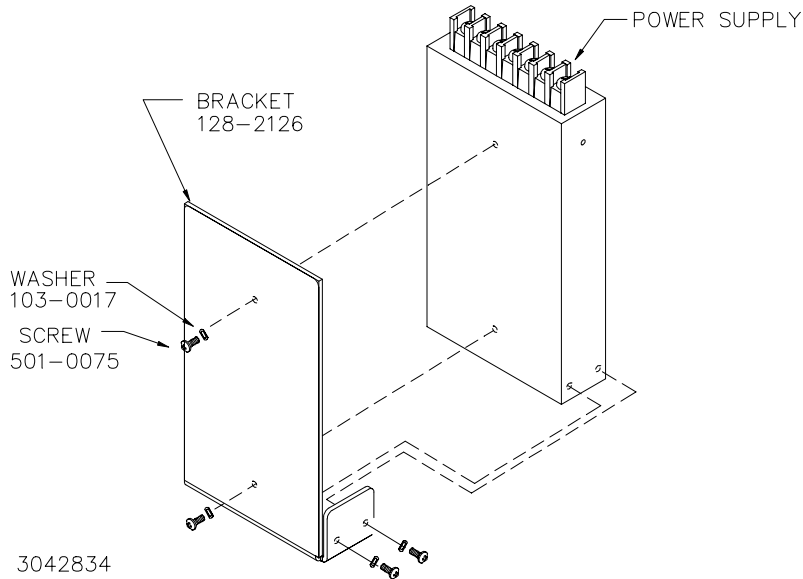

FIGURE 2. INSTALLING MOUNTING BRACKET ON POWER SUPPLY
2. **INSTALL MOUNTING BRACKET.** Attach the mounting bracket to the power supply using the hardware supplied (see Figure 2).